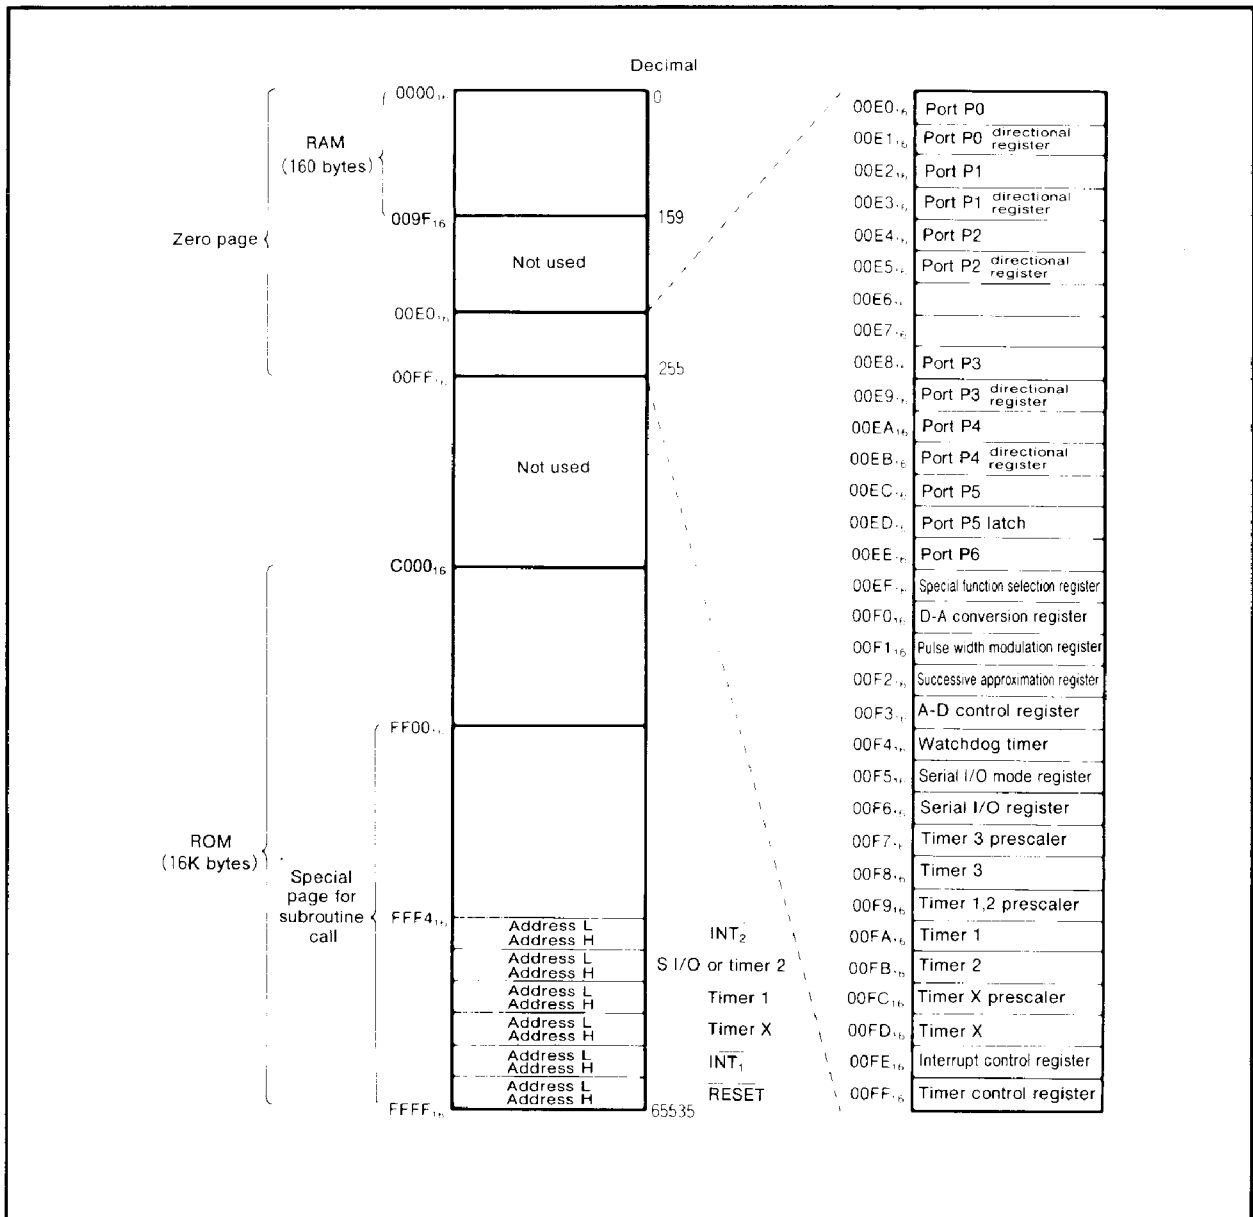

Fig.1 Memory map
The memory map is shown in Figure 1. The M50964-PGYS is mounted an EPROM instead of an internal ROM. The address of an EPROM is $C000_{16} \sim FFFF_{16}$, and this memory size is 16384 bytes. Other than these, the M50964-PGYS has the same functions as the M50964-XXXSP/M50963-XXXSP have.
- (1) In case of the M5L2764K or the M5L27128K EPROM use the following areas (refer to Figure 1):